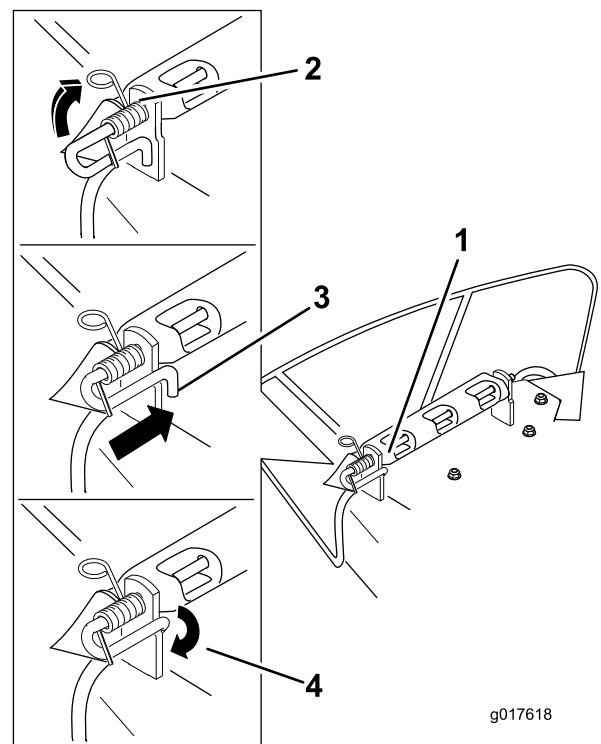

Figure 63
- Lift the loop end of the spring and place it into the notch on the deflector bracket (Figure 63).
- Secure the rod and spring assembly by twisting it so the short end of the rod can be placed behind the front bracket welded to the deck (Figure 63).